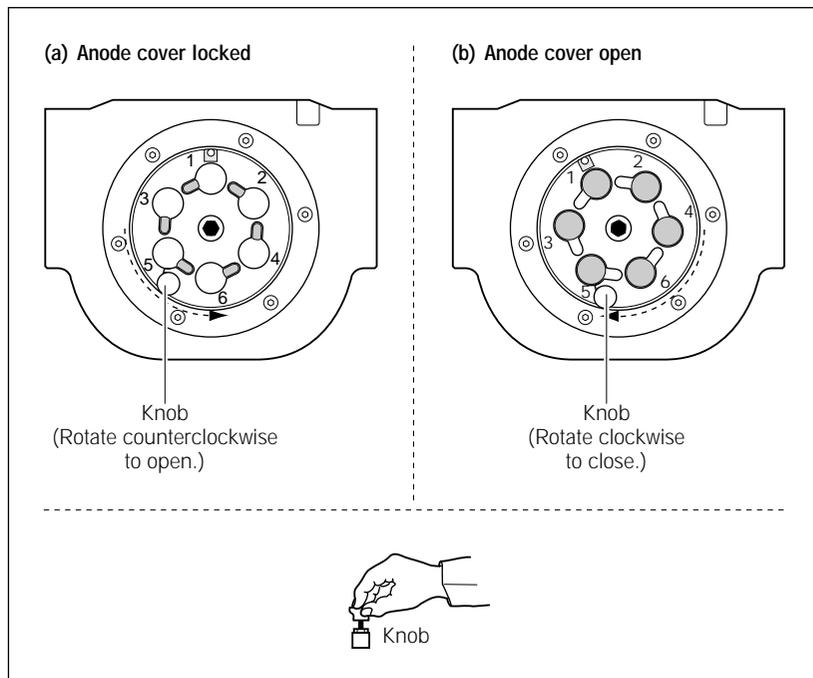

Figure 4-8. The anode cover (top view): (a) cover locked and (b) cover open.
3. Grasp the number 6 window holder and the handle of the corresponding anode plug (see numbering in figure 4-8). First pull up on the plug and then the window holder to free the array from the window holder platform and the anode cover.
8. On the anode cover, locate the back-left position labeled 1 (figure 4-8).
1. At the anode cover (figure 4-8), locate the anode blocker that you want to remove.